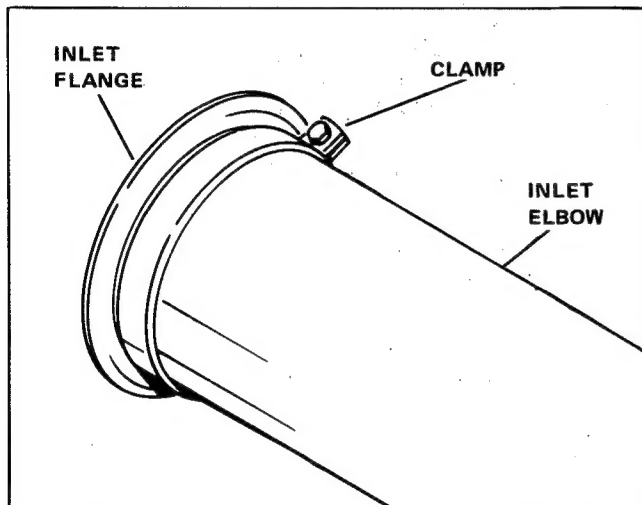

Figure 18. Assembling Inlet Elbow
7. Insert the inlet flange into the long end of the inlet elbow, and hold the flange tight in the inlet elbow with a clamp and screw. (See figure 18.)